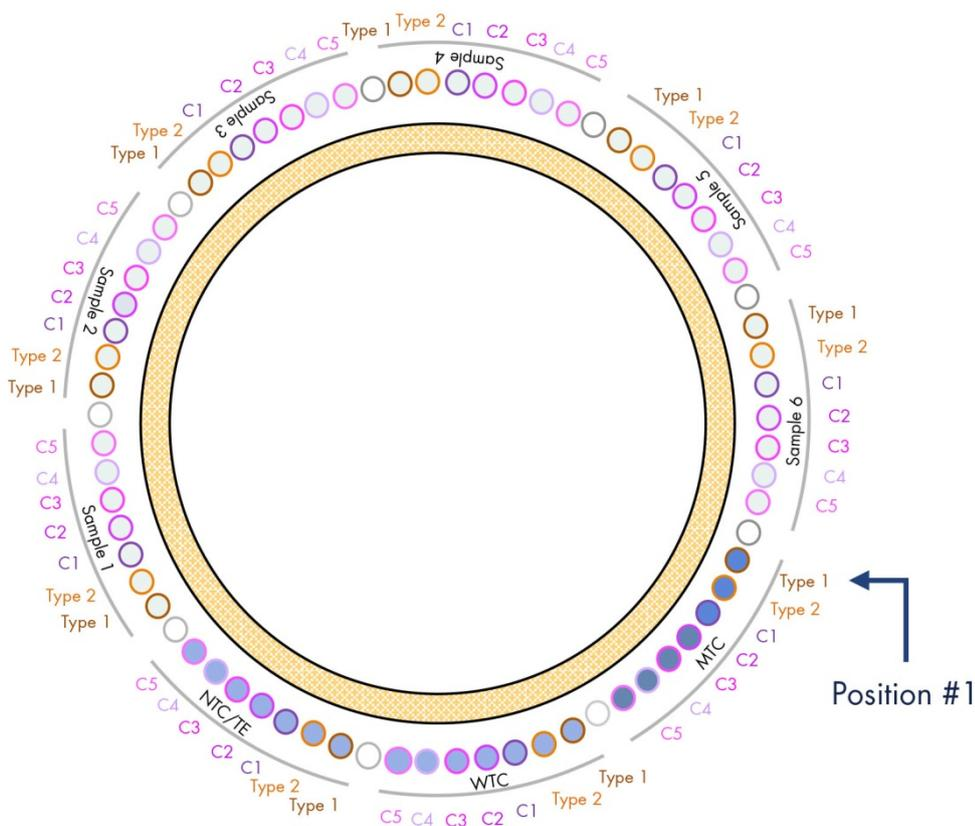

Figure 5. Suggested rotor setup for an experiment with the CALR RGQ PCR Kit.
The scheme shown in Figure 4 and Figure 5 provides an example of the loading block and rotor setup for an optimized experiment with the CALR RGQ PCR Kit.
- Fill the rotor with strip tubes according to the assigned positions, starting at position 1, as shown in Figure 5 with empty capped strip tubes placed into all unused positions.
Note: Make sure the first tube is inserted into position 1 and the strip tubes are placed in the correct orientation and positions as shown in Figure 4 and Figure 5.
Note: Always keep the TYPE 1 reaction mix and the three controls (MTC, WTC, NTC) in positions 1, 9 and 17 so that gain optimization (performed on tube position 1) is always performed on the same amplification (see Figure 4 and Figure 5).